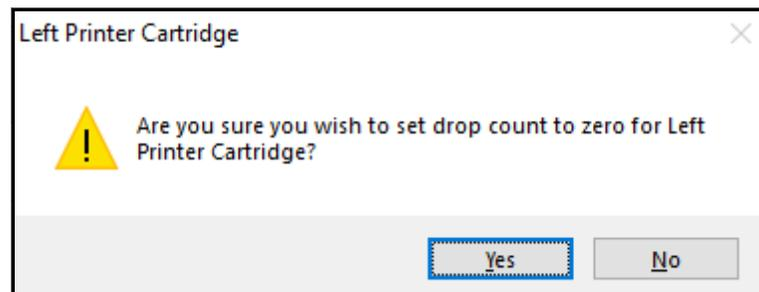

Figure 6-14: Reset the drop count
6. Click **Yes** when asked to reset the printer cartridge's drop count (Figure 6-14).